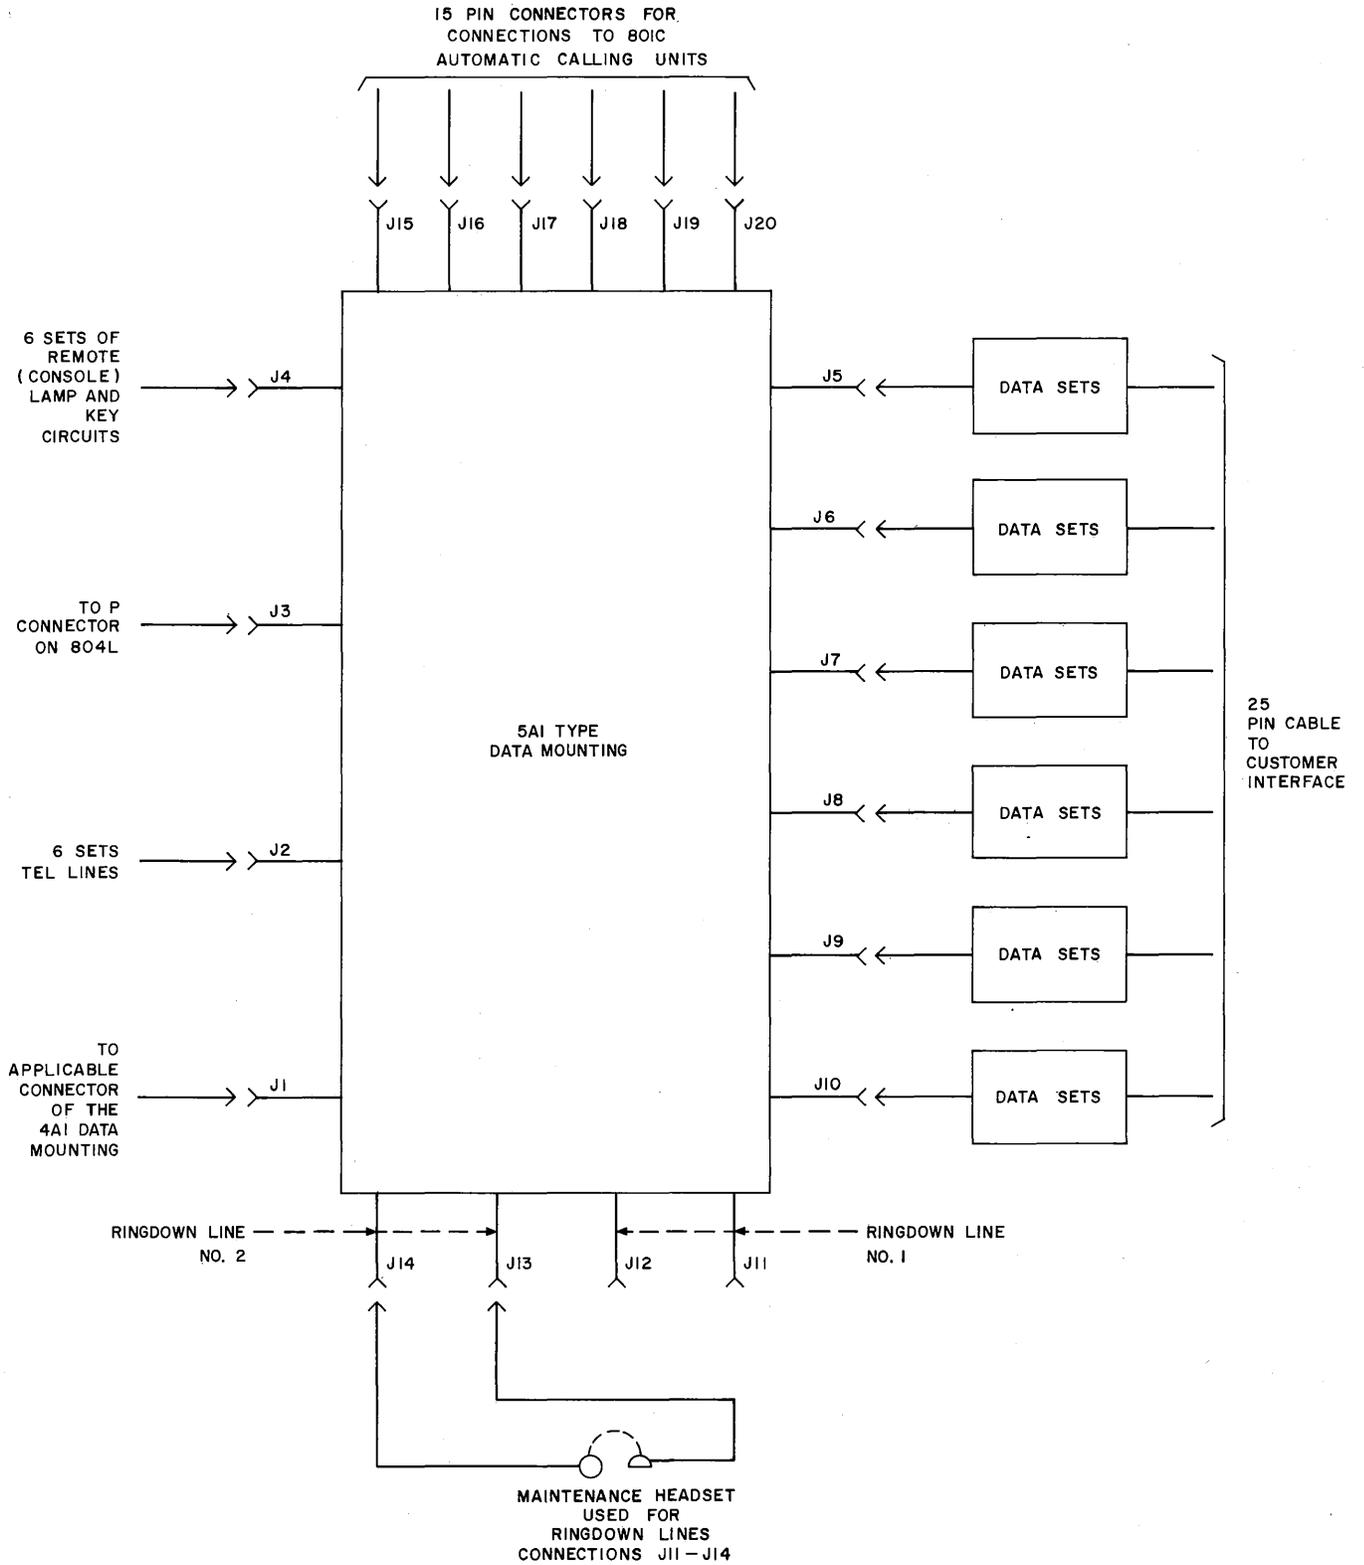

Fig. 4 — 5A Type Data Mounting, Connections
3.07 The selection leads for associating a data terminal with a particular telephone unit are provided by connectors J3 and J4. These leads control the operation of the AR196 circuit pack relays. Figure 4 shows the connections that